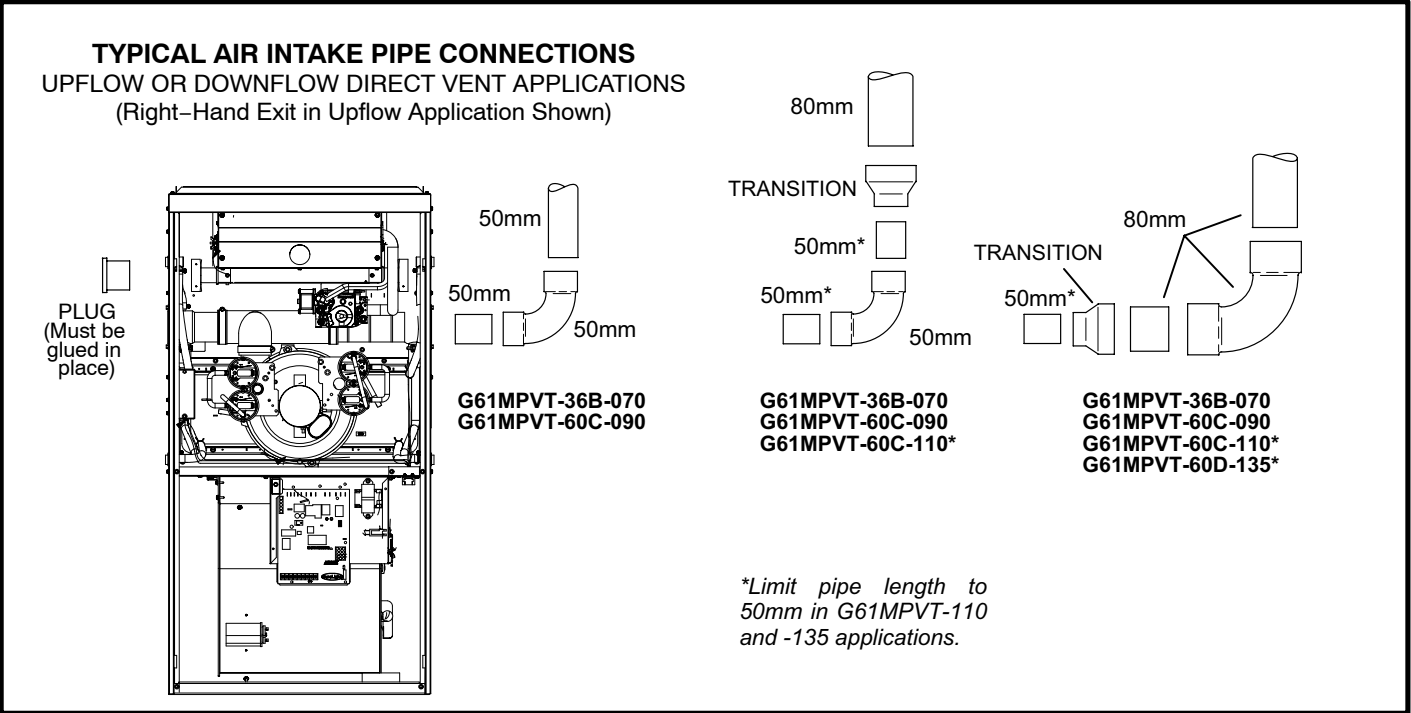

FIGURE 17
- 4 - Route piping to outside of structure. Continue with installation following instructions given in general guide lines for piping terminations and in intake and exhaust piping terminations for direct vent sections. Refer to figure 17 for pipe sizes.